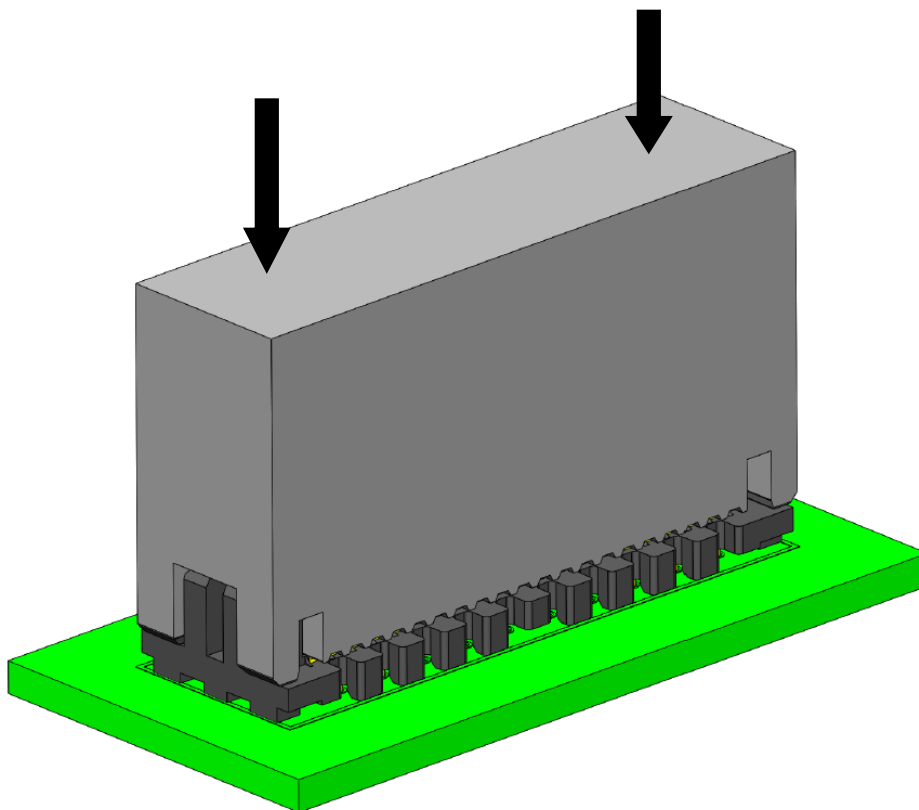

Figure 3: Insertion Tool Application to Seat Connector
- Uniformly load the top of the insertion tool as shown in figure 3.